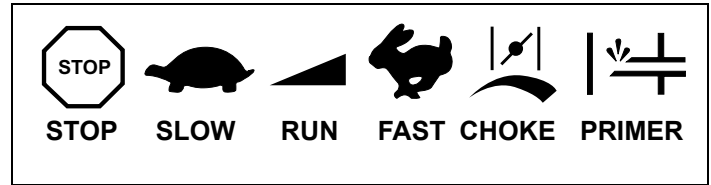

Figure 21. Typical Engine Symbols
5. Move engine speed control to “FAST” position. See Figures 21 and 22.
If restarting a warm engine after a short shutdown, move engine speed control to “FAST” position and move choke control to “NO CHOKE” position. See Figures 21, 22 and 24. Afterward, continue reading instructions below.
10. Move engine speed control to desired speed in “RUN” range. See Figures 21 and 22.